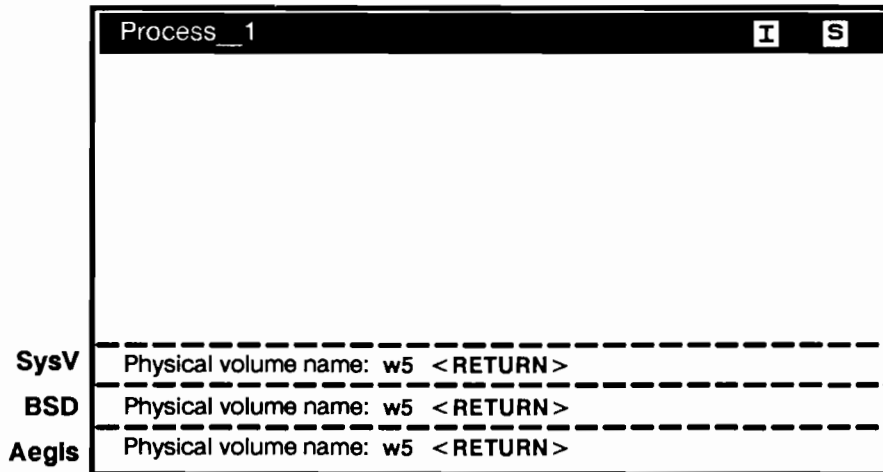

Figure 3-23. Specifying the Name of the Disk Drive Volume
5. The `invol` utility then prompts for the name of the physical volume as shown in Figure 3-23. In later examples `w5` is used as the volume name.